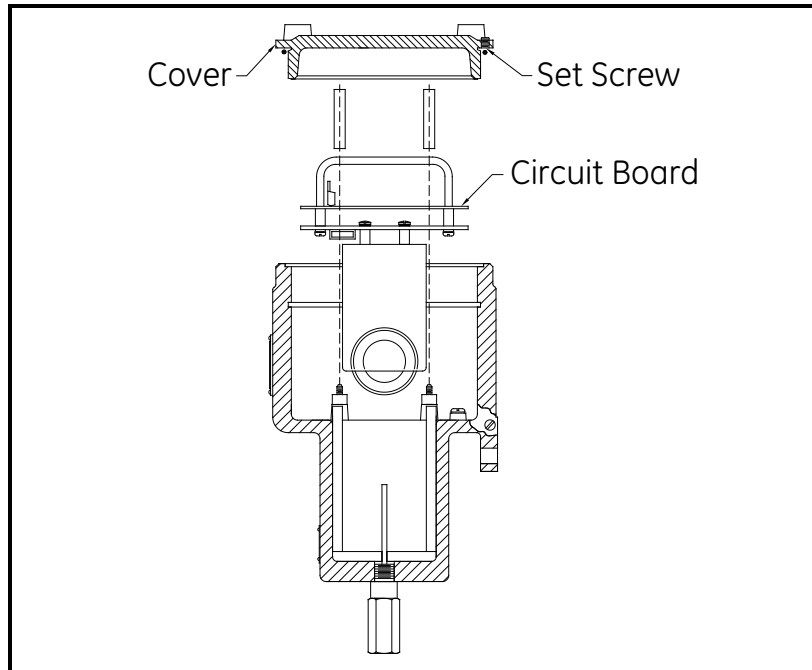
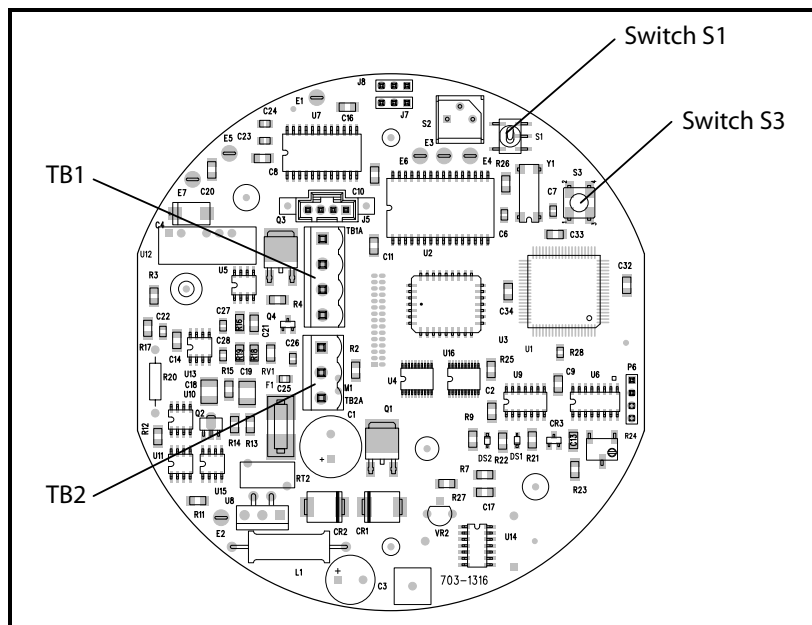

Figure 10: XMO2 Cover, Set Screw, and PCB
Figure 11: PCB Calibration Switches
To prepare the XMO2 for a field calibration, refer to *Figure 10 on page 25* and perform the following preliminary steps:
3. Refer to *Figure 11 on page 25*, and locate the following items:
Note: The XMO2 digital PCB (see Figure 11 below) is located directly below the cover (see Figure 10 above).
3. Using *Figure 11 on page 25* as a guide, locate the *Calibration Pushbutton* (Switch S3). Depress the *Calibration Pushbutton* and hold it down for 20 seconds. During this time, the green light below the *Calibration Pushbutton* will go out.
2. Using *Figure 11 on page 25* as a guide, locate the *Zero/Span Selector* (Switch S1). Set the *Zero/Span Selector* (Switch S1) to position "1" ("Zero").
2. Using *Figure 11 on page 25* as a guide, locate the *Zero/Span Selector* (Switch S1). Set the *Zero/Span Selector* (Switch S1) to position "3" ("Span").
To prepare for this calibration method, refer to *Figure 10 on page 25* and perform the following preliminary steps: